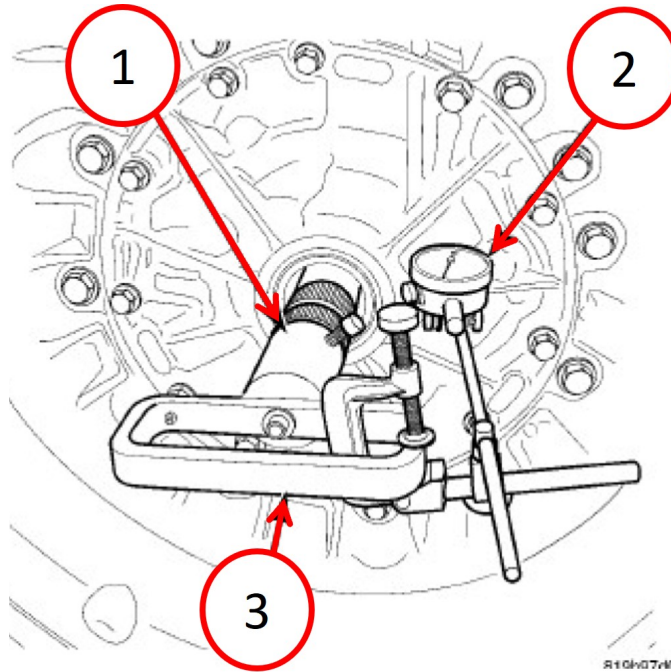

Fig. 3
6. Using special tools Adapter Socket, End Play 8266-22 and the handle from End-Play Tool Set 8266B and Dial Indicator C-3339A, measure and record the input shaft end-play Fig 3.